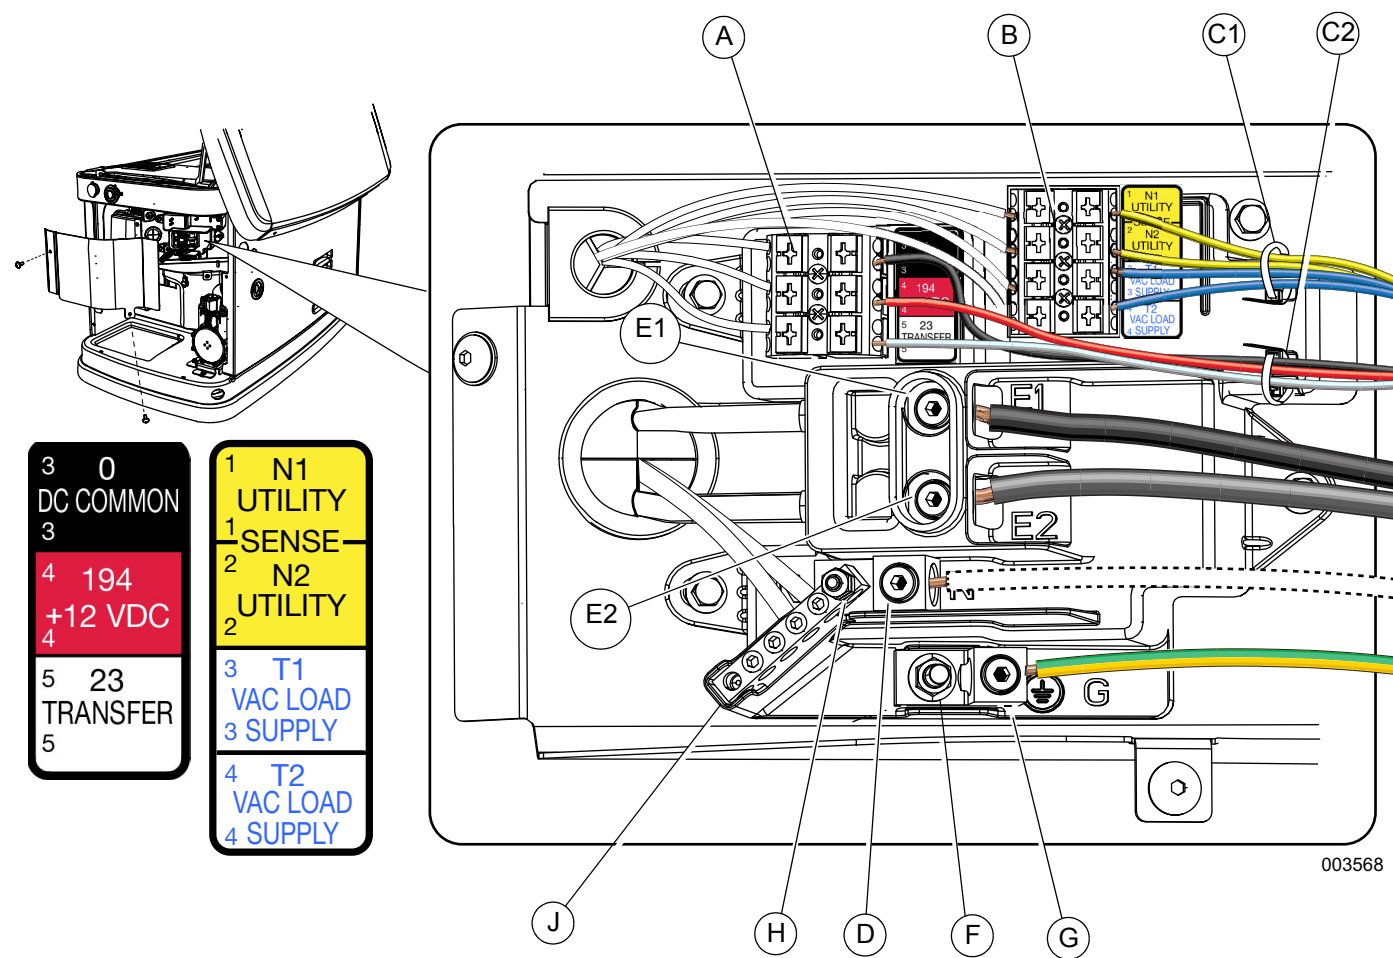

Figure 6-1. Electrical Wiring Connections
See Figure 6-1. The electrical wiring enclosure is located behind an access panel on the intake end of the unit. Remove the intake side panel as directed in Intake Side Panel Removal, and then remove the access panel. Connect wires according to the diagram and tables.
4. Strip the insulation from the ends of the wires. Do not remove excessive insulation. See Figure 6-1. Route the sense wires through the supplied wire tie (C1), and connect to the sense wire terminal block (B). Push down on the spring loaded connection point with a flat head screwdriver, insert wire, and release.
5. Using the same process, route the control wires through the second supplied wire tie (C2), and connect to the control wire terminal block (A).
2. See Figure 6-1. Loosen the lugs at neutral (D), ground (G), and power wire (mains) terminals (E1, E2).
NOTE: Neutral bonding – For installations that require the neutral to be bonded to the ground, this is done on the customer connections terminals inside the generator. See Figure 6-1. Connect a suitably sized wire from the neutral bar (J) to the ground stud (F). Torque the nut on the ground stud to 35 in-lbs (3.95 Nm). This is normally required when the generator is the source in a separately derived system and the installation requires a neutral connection. It is not required when the generator is a backup source in a utility supplied electrical system with a 2-pole transfer switch. The installation must be made in accordance with NEC Articles 250.30 and 250.35(A) if the generator will be installed as a separately derived system.